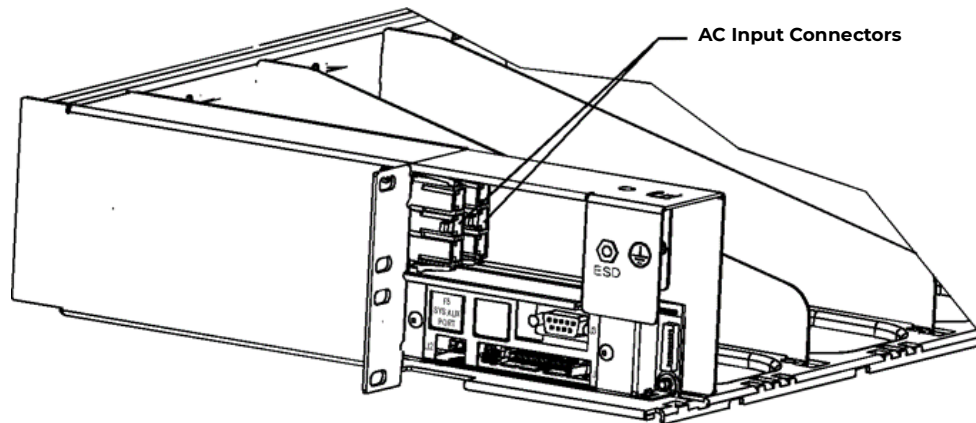

Figure 5-12a: Dual AC Input Connections
1.	Insert the H569-470A ac cord into the ac receptacles on the CPS shelf. Refer Figure 5-12a, b, c or d for the appropriate shelf